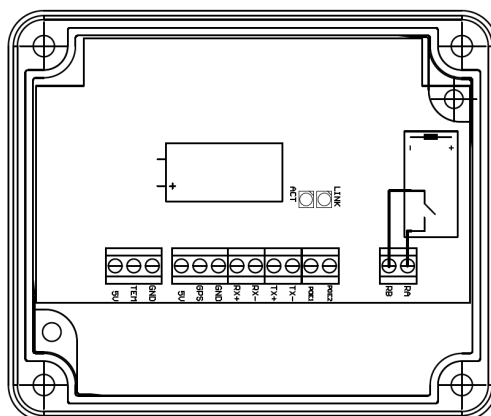

Fig. 1. Prestige Line clock connectors
**Fig. 1** shows the device connectors that are available after removing the housing cover.